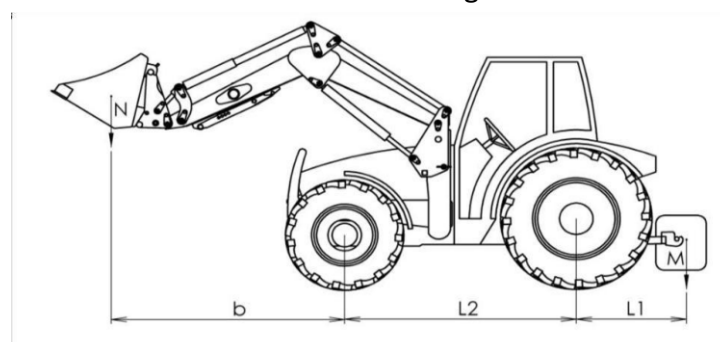

Fig. 4.1 Ballasting Schematic
- L2...wheelbase of the tractor shown in figure 4.1